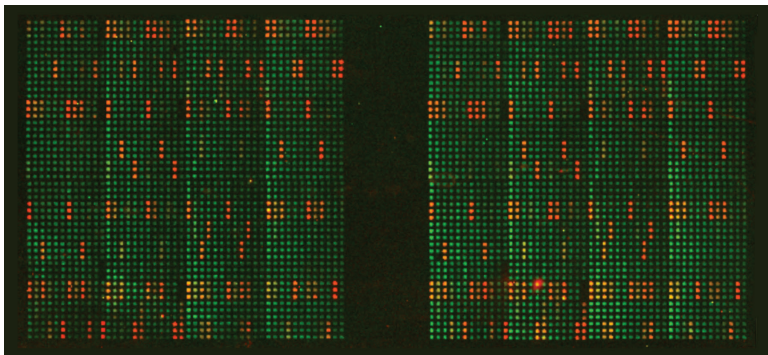

Figure 5. EpiTitan™ Histone Peptide Array Data.
2. Copy the array grid (just the grid from with the peptide numbers, not the array image under it) from the "EpiTitan Array Grid v3.doc" file from the website and paste it as a picture on the same slide. See Figure 5 for an example of this.